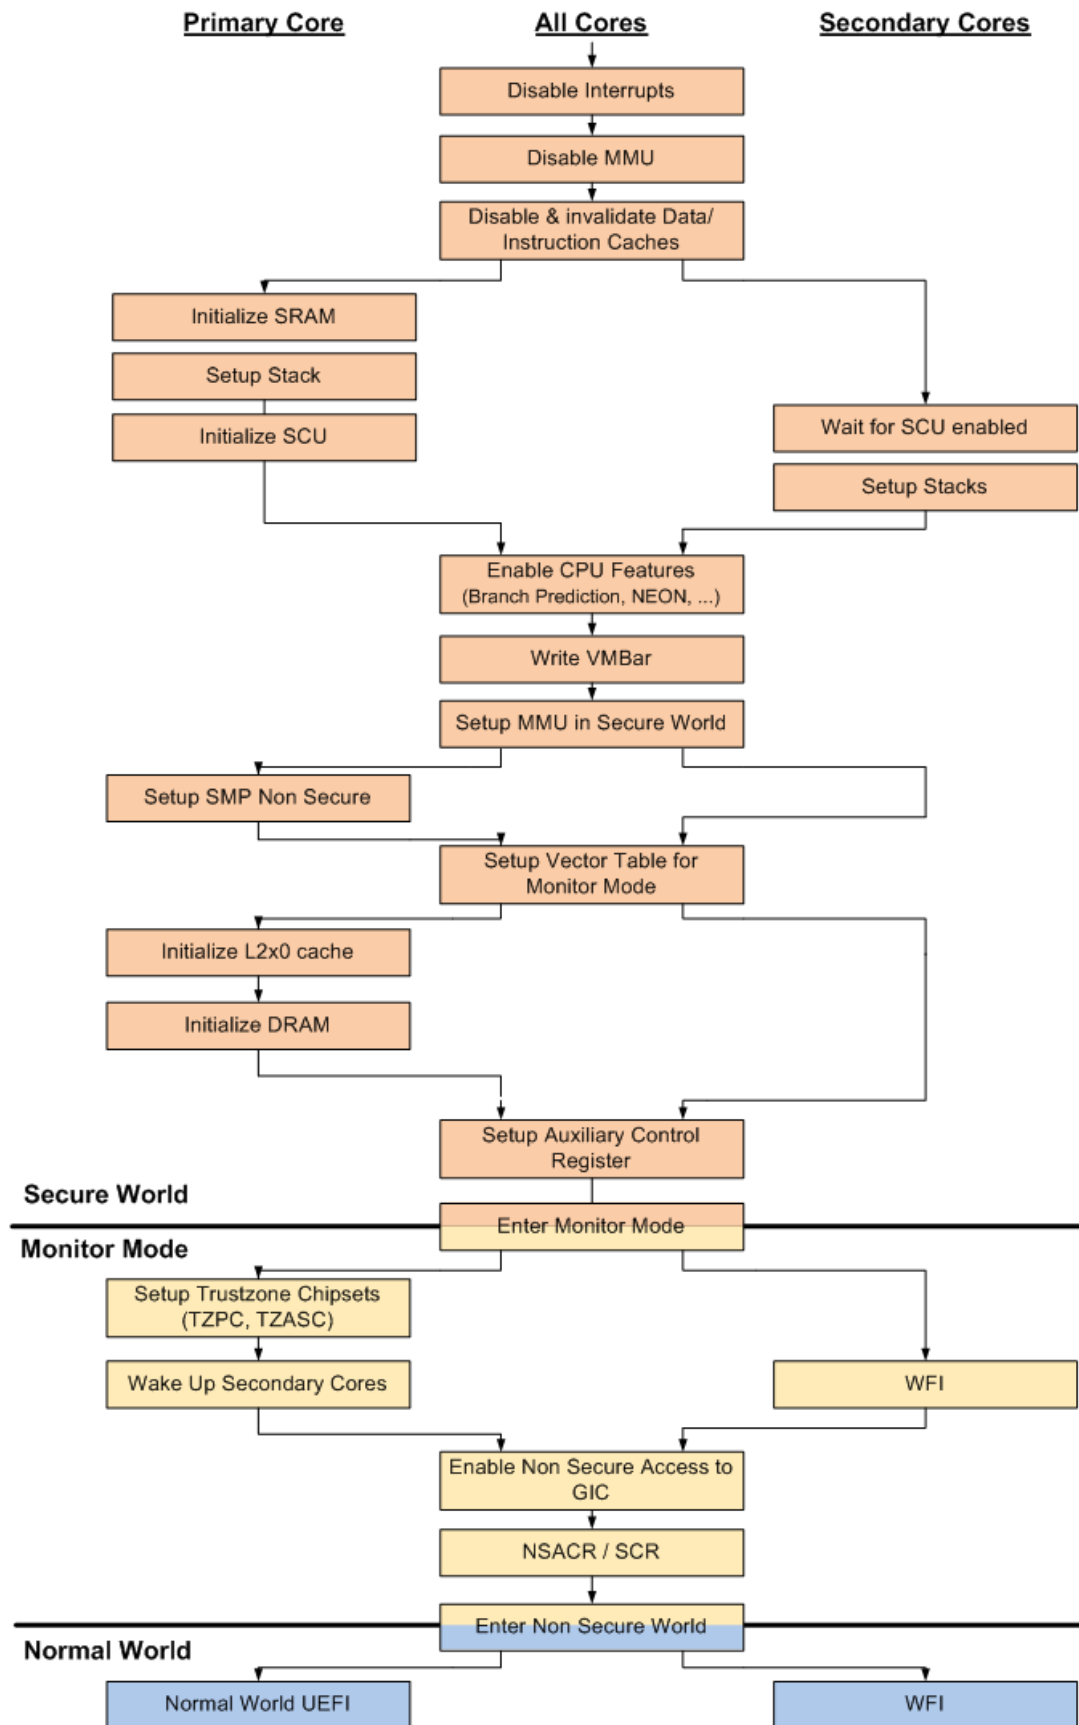

Figure 6: MPCore initialization with the Secure Extension during the SEC phase
- The `EFI_SEC_PEI_HAND_OFF` structure (see Figure 6.) that defines the location of the firmware volume, the temporary memory and the stack.